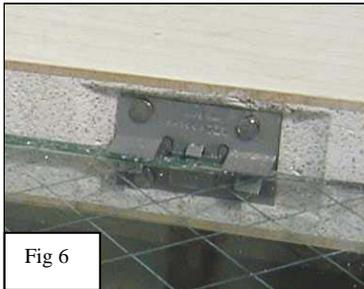

Fig 6
7. Secure the second part of the clip to the cutout using two additional 1-9/16” nails. These nails should extend through the overlapping holes in both halves of the clips (Fig 6).